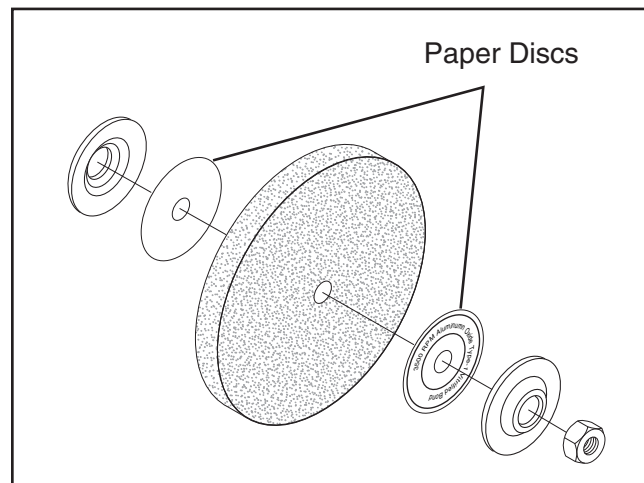

Figure 17. Assembly order for wheel installation.
6. Remove the wheel from the spindle. Notice the paper or fiber disc between the wheel flanges and the wheel itself. This helps to spread the rotational forces across the inner area of the wheel (see **Figure 17**).
7. Mount the new wheel in the order shown in **Figure 17**. Tighten the nut snugly but do not over tighten. Over tightening can crack the wheel.